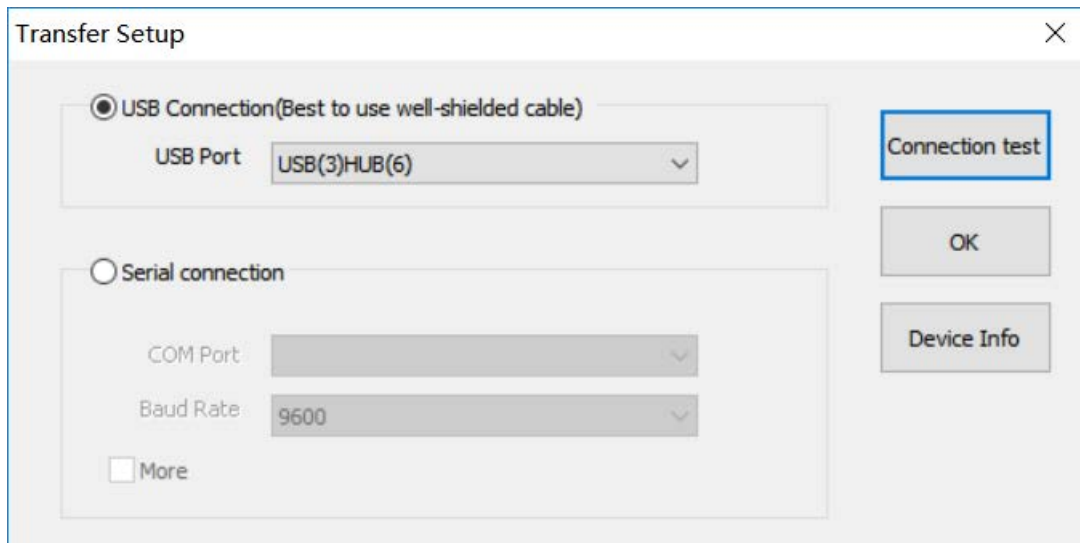

Figure 5-2
- 3) Open the [Transfer Setup] windows as Figure 5-2 shows, this [Transfer Setup] is available in V1.1.0 and later software version;